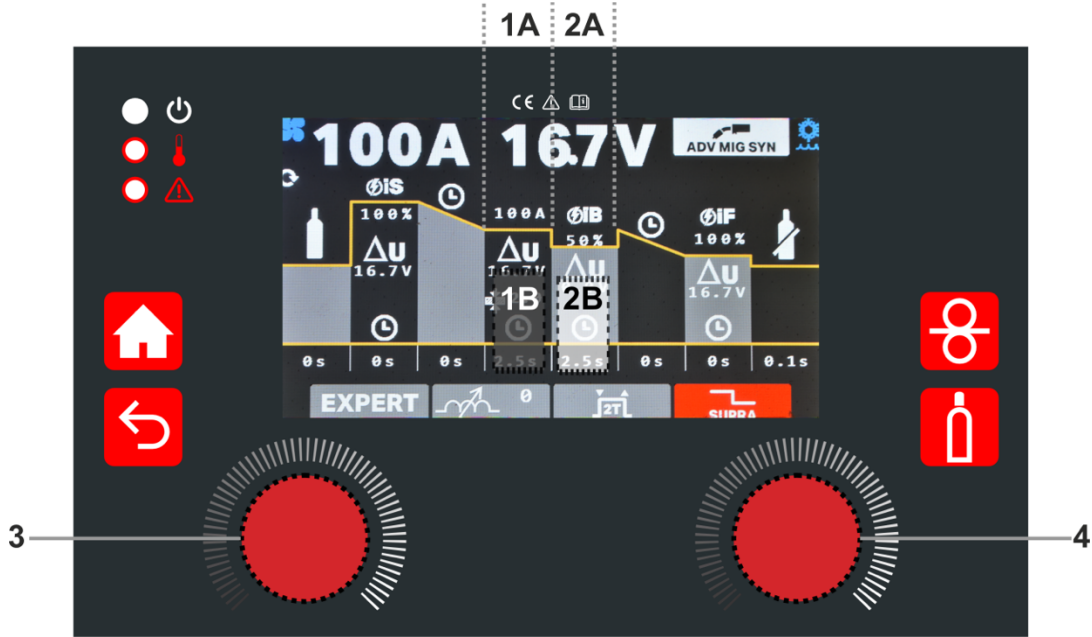

Fig. 9
- To select SUPRA welding, which is pulsed welding (an alternation between two levels of power) with short circuit transfer mode - turn right side encoder (nr. 4 – Fig.9) until button SUPRA is selected (red color), then turn the same right side encoder until it changes to SUPRA.